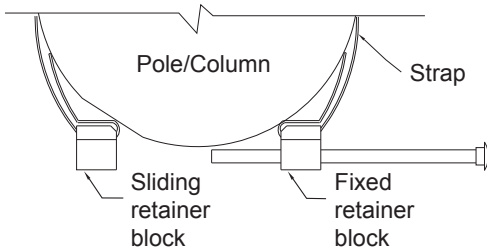

Figure 4
Step 4: Move the Sliding Block back at least 1"-2" and fold the strap at the Sliding Block's beveled end. Strike the bend to form a sharp radius. Trim away the excess strap material leaving 4" or more of left over material. A Longer tail length provides more effective locking. Feed any excess strap material through the Pole Adapter's slots, if necessary (Figure 4).